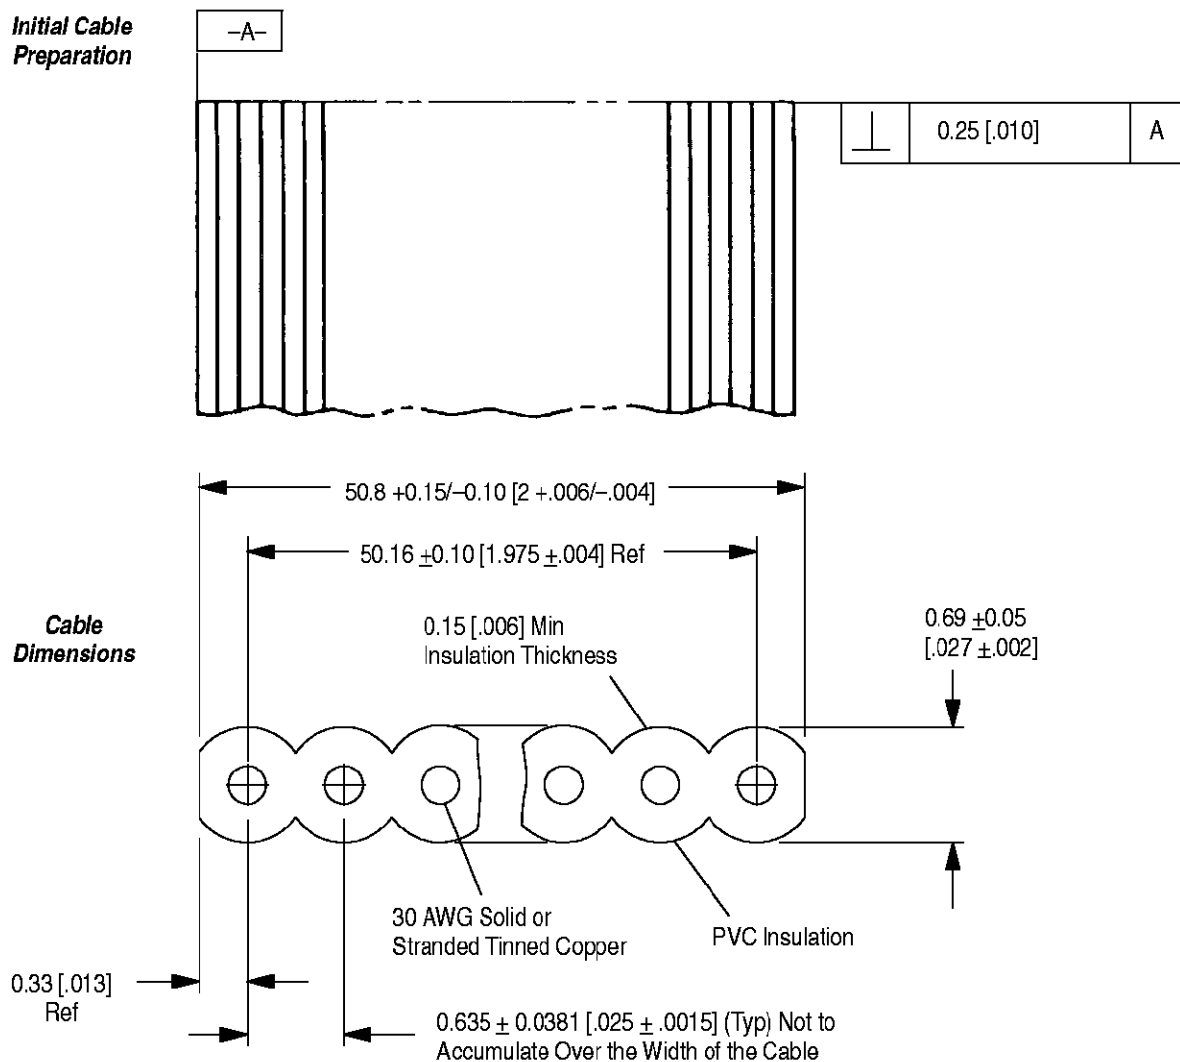

Figure 2
- Made text changes in Figures 2, 5, and 8
The IDC contacts in AMP-LATCH receptacles are designed to accept PVC-insulated cable wires with 30 AWG copper solid conductors or 7/38 stranded tinned copper conductors. Insulation materials other than standard PVC must be submitted to Tyco Engineering for evaluation before use. An initial cut needs to be made using a guillotine-type cutting tool. See Figure 2. Contact your Tyco representative for current tool recommendations for cutting and notching of cables.
There is one high production automatic machine designed to make cable assemblies using standard planar ribbon cable described in Figure 2. It is the R-CAM 4 which terminates up to 10 connectors. The machine can accommodate variations of the AMP-LATCH Ribbon Cable Connectors with 0.64 [.025] centerline cable. A customer manual for setup and operation is supplied. The machine will test the cable assemblies for continuity and short circuits as they are being processed. See Figure 9.